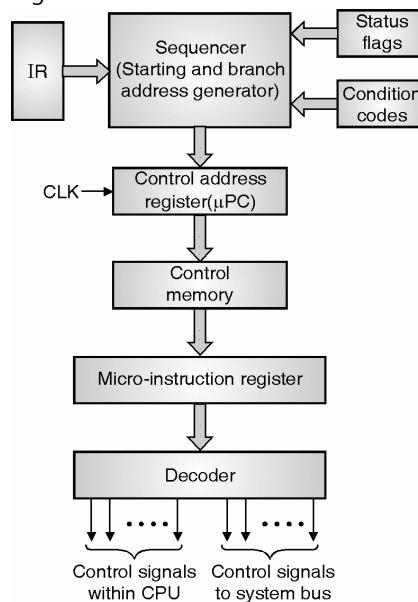

Fig. 9.8.1 : Micro programmed control unit
- The implementation of the micro programmed is shown in the Fig. 9.8.1.